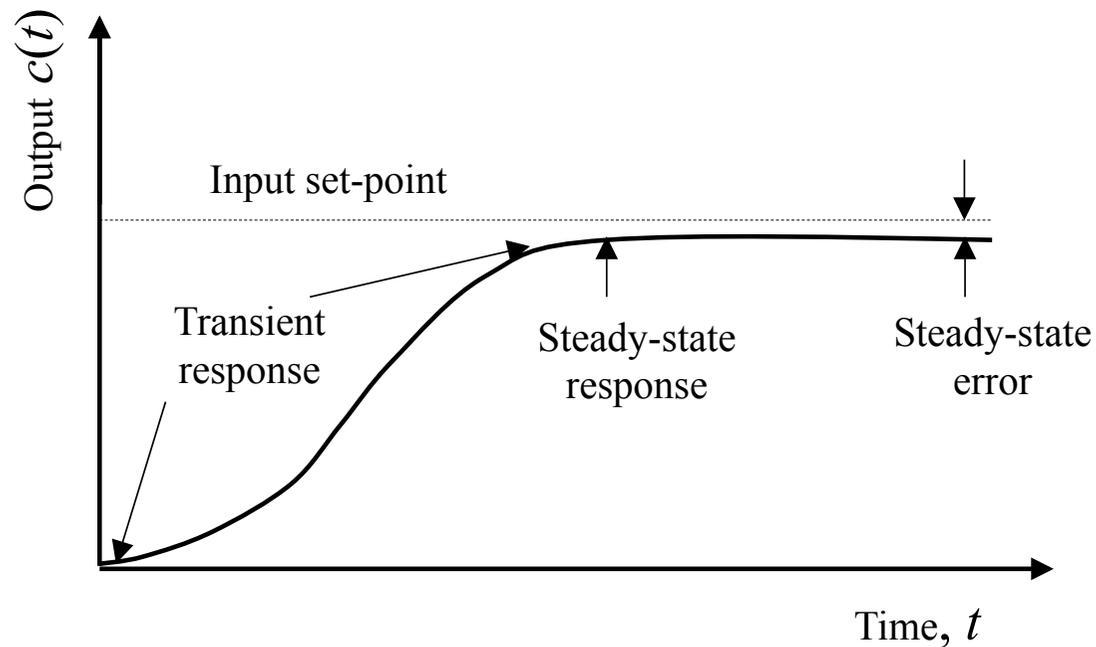

Figure 4.2 System response
- The *transient response* as shown in Figure 4.2, is the change in output response from the beginning of the response to the final state of the response and the steady state response is the output response as time is approaching infinity (or no more changes at the output).